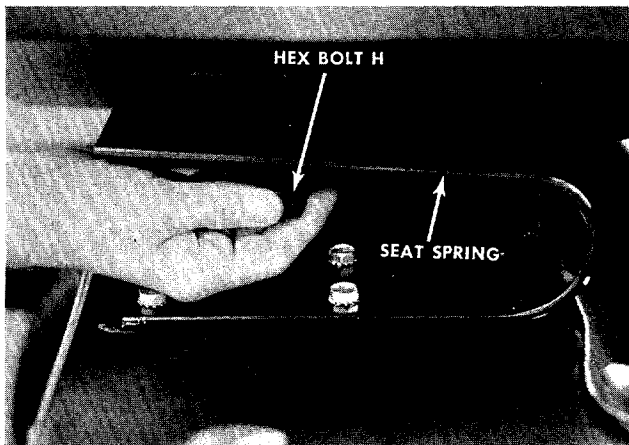

FIGURE 5. SEAT ASSEMBLY
b. **Hex Head Bolt Mounted.** Assemble the seat to the seat spring with hex bolt H as shown in figure 5.
CONTROLS See figure 5.